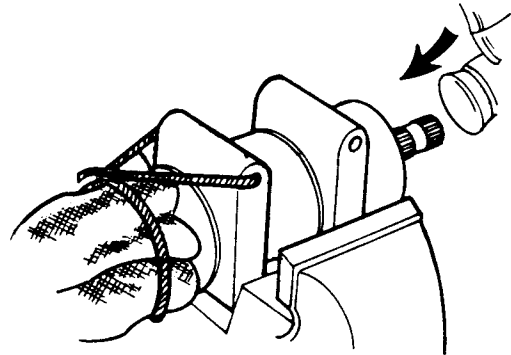

Fig L5.12
- (7) Refer to Fig L5.12. Enclose the lower end of the relay assembly with stout material, leaving within the material sufficient space to accommodate the relay shaft. Secure the material to the relay housing to form a safety sheath.
- (8) Gently tap the relay shaft into the safety sheath.
- (9) Remove the safety sheath and collect the relay shaft, split bushes, spring and washers.
- (10) Remove the bolts securing the relay upper cover and remove the upper cover complete with oil seal, gasket and thrust washer. Discard the gasket, remove the oil seal.
- (11) Remove the oil seal from the relay lower cover.